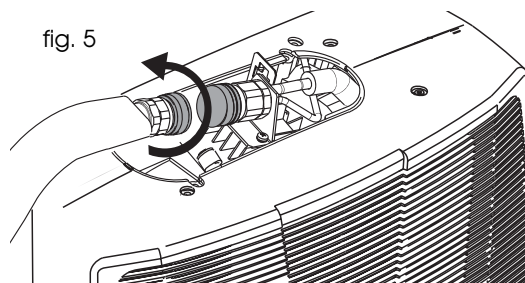

fig. 5
- 6) Disconnect the hoses by unscrewing the black ring nut on the quick coupling until the flexible sheath is completely detached (fig. 5).